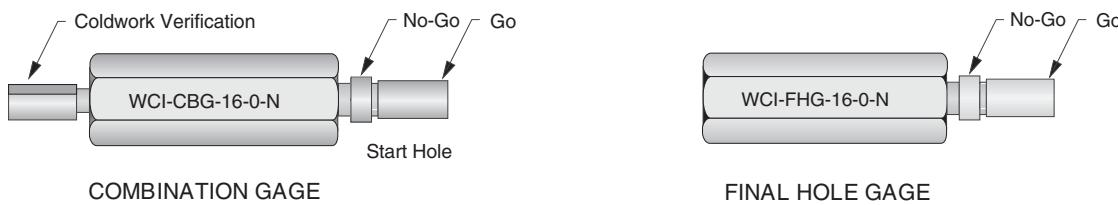

Figure 3-05 — Combination and Final Hole Gages
- 3.9 **Gages** - The aerospace industry utilizes four types of gages to verify hole sizes during the coldworking process. Ref. Fig. 3-05.
- 3.9.3 **Combination Gage** — The combination gage combines the above two gages into one unit. One end of the gage checks the pre-coldworked start hole while the other end verifies that the hole has been coldworked. Ref. Fig. 3-05
- 3.9.4 **Final Hole Gage** — The final hole gage is used to verify that the final hole diameter is within the specified tolerance. Ref. Figure 3-05